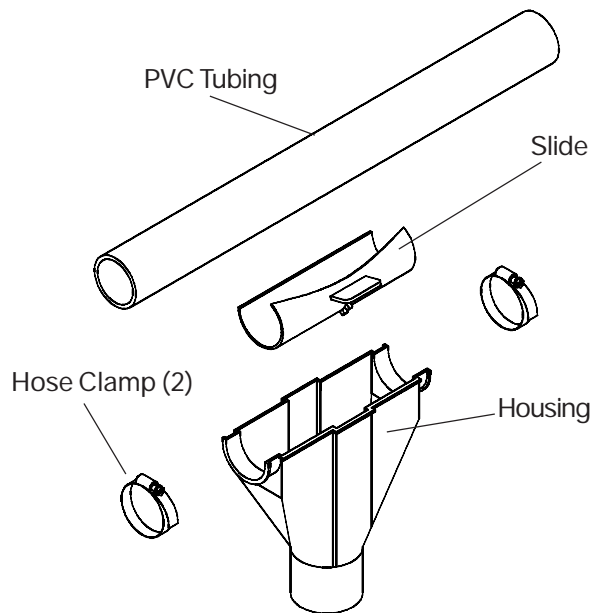

Figure 15: Drop Kit Installation
1. Snap the slide around the tube over the outlet hole. (Fig. 15)